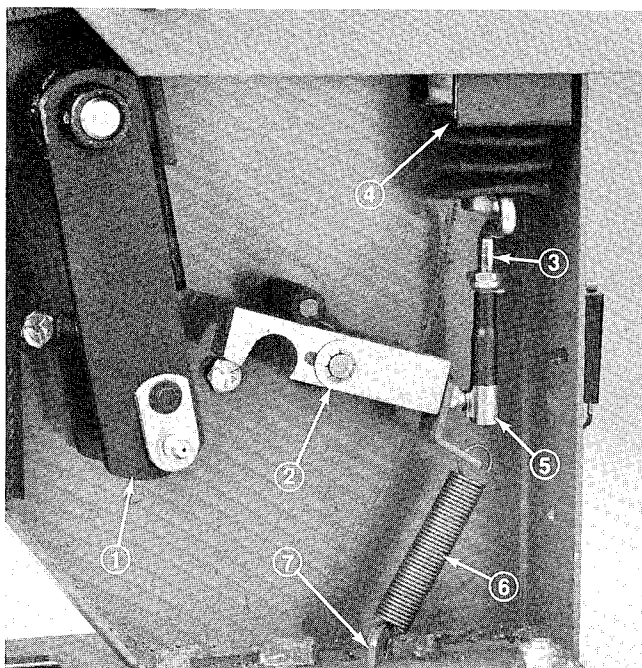

Figure 53
- A. Unlock ball joint from latch ball (Fig. 53).
IMPORTANT: Make sure rod is positioned squarely as shown in Fig. 53.